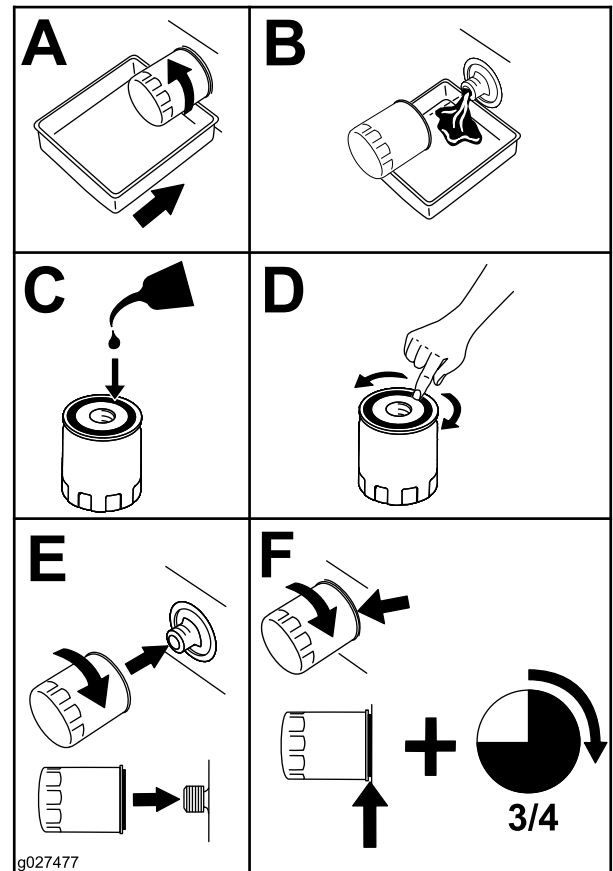

Figure 52
2. Change the engine-oil filter (Figure 52).